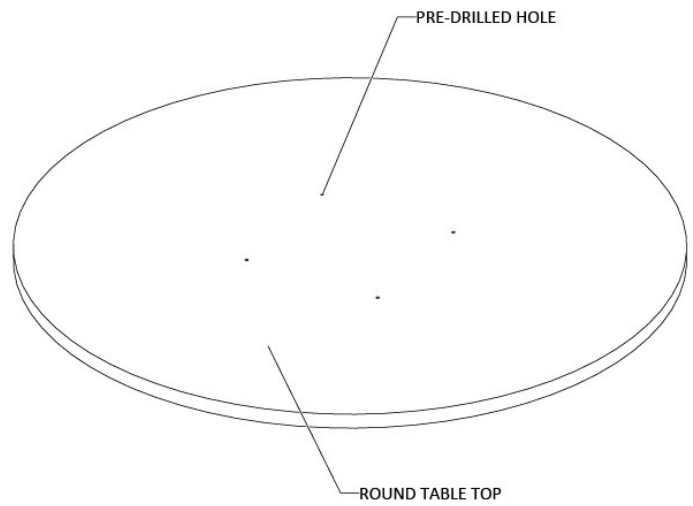

Figure 1
1. Place the round table top on a clean solid surface or with the underside facing up, (Figure 1).